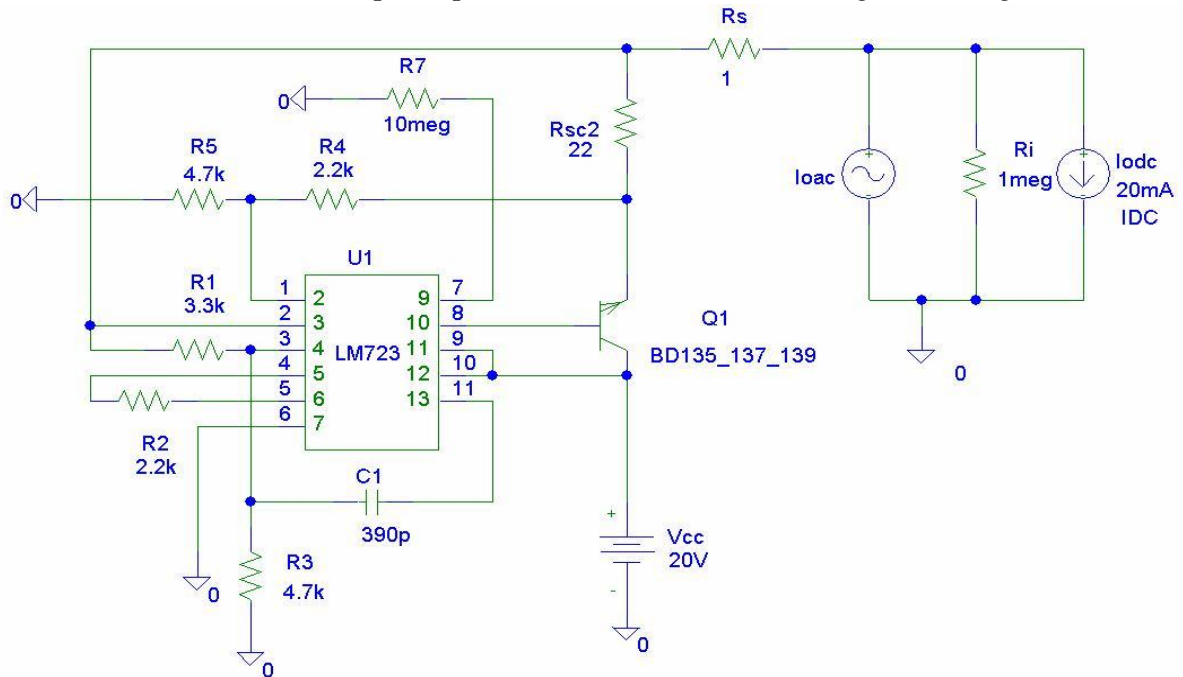

Fig.19. The circuit for the determination of the output impedance (R_O)
B. For the determination of the output impedance (R_O), the circuit from Fig.19 is being drawn.